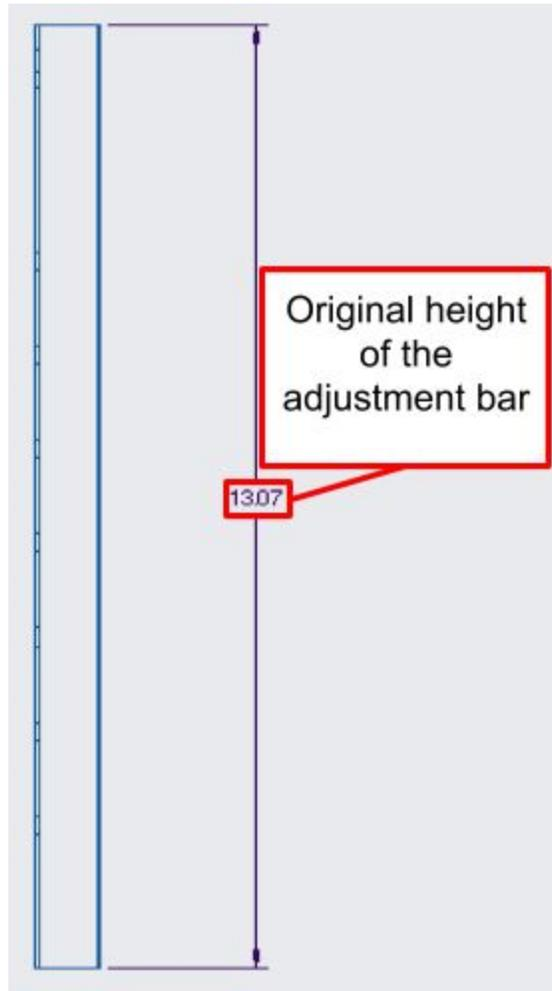
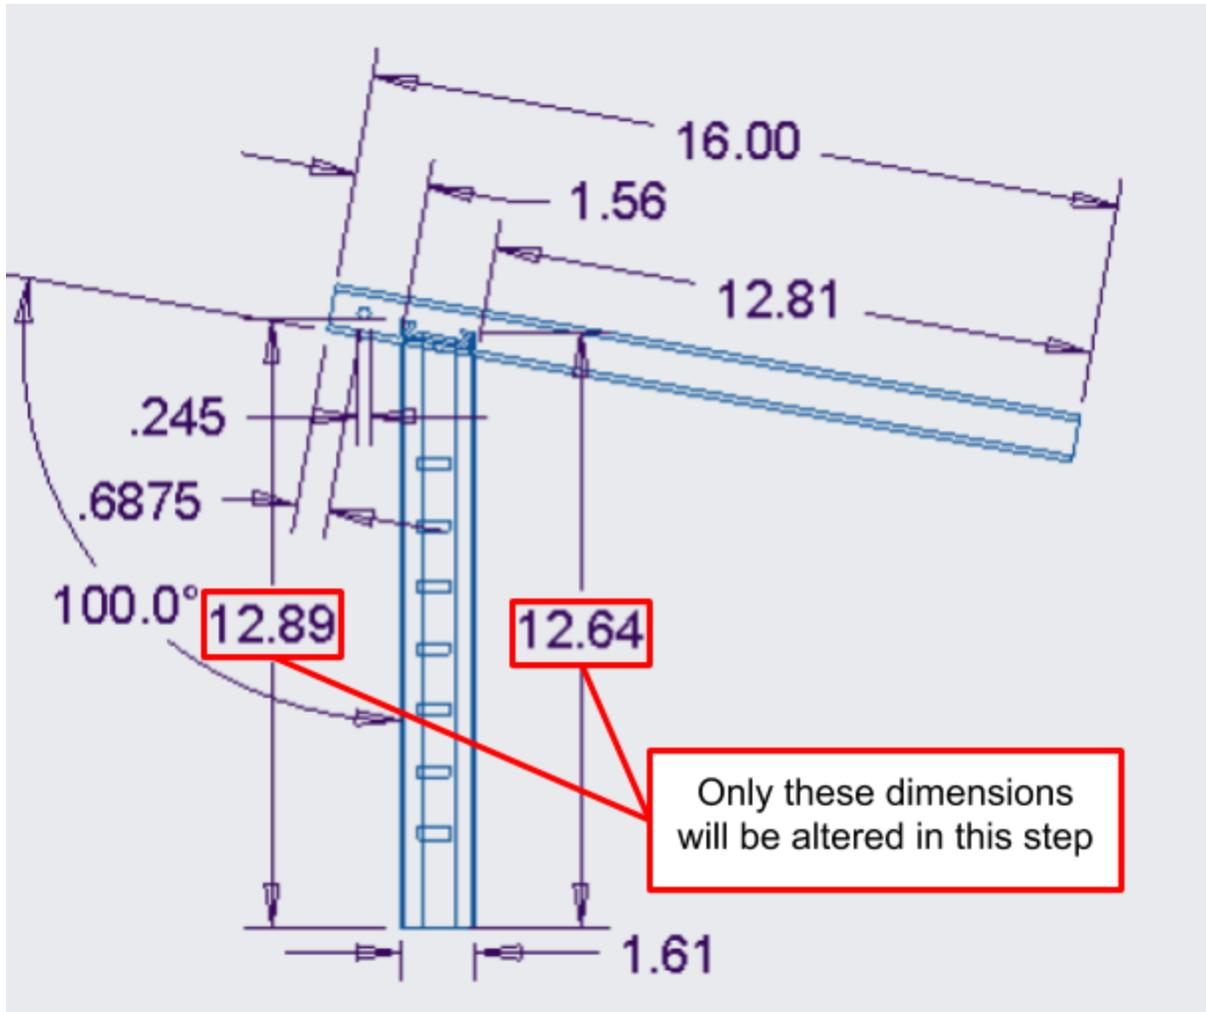

Figure 28. A close-up of the adjustment bar engineering drawing, showing the original height of the component before modification.
Figure 29. A close-up of the angled handlebar engineering drawing, showing the modified height of the adjustment bar due to the angled cut.
- As seen in Figure 28, the original height of the adjustment bar component is 13.07". Just as for the straight handlebar set, the component will need to cut down, and this time will also need to be done at a 10° angle. This process is simplified by the 12.89" and the 12.64" dimensions seen in Figure 29.